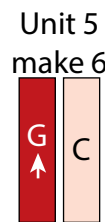

Fig. 7
5. Sew (1) $2'' \times 6\frac{1}{2}''$ Fabric G strip to the left side of $2'' \times 6\frac{1}{2}''$ Fabric C strip lengthwise to make (1) Unit 5 strip (Fig. 7). Repeat to make (6) Unit 5 strips total.